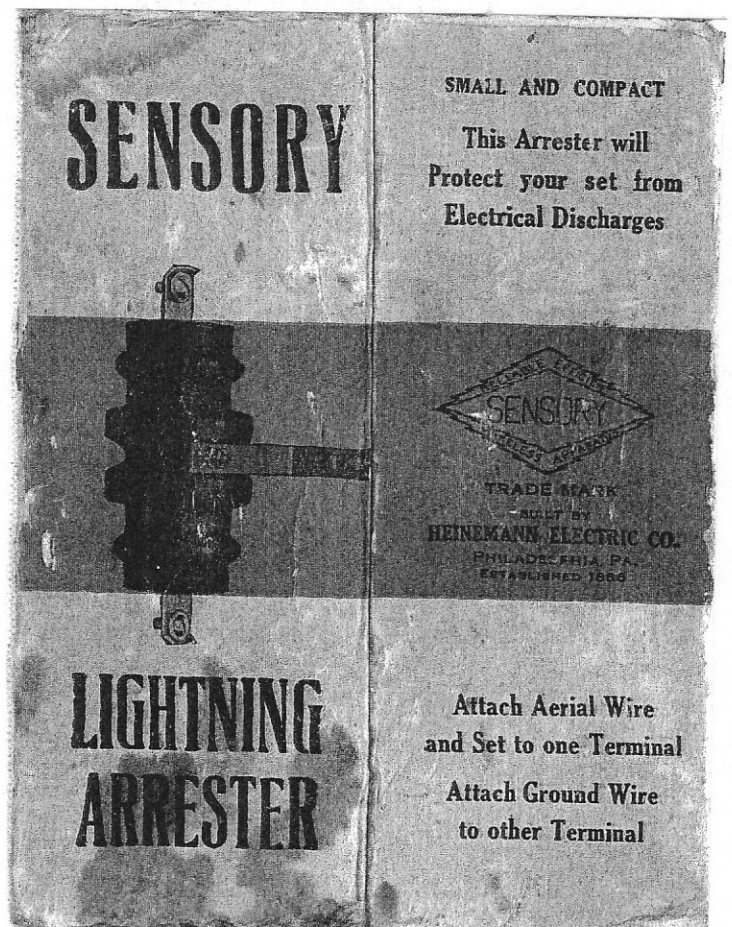

Figure 5: Sensory 3042
The 4-5/8" 3042 tubular arrester (Figure 5) is an unusual design. This big guy is designed to hang from an angle bracket on a wall. Mine is glazed in black and actually looks like a Star Porcelain Nu-Blac item (*OFS* 12/96). Since it's glazed all-over, I can't verify that gray clay lays inside without breaking it. I guess we'll have to just speculate for right now.
- Figure 5: Sensory 3042 arrester box